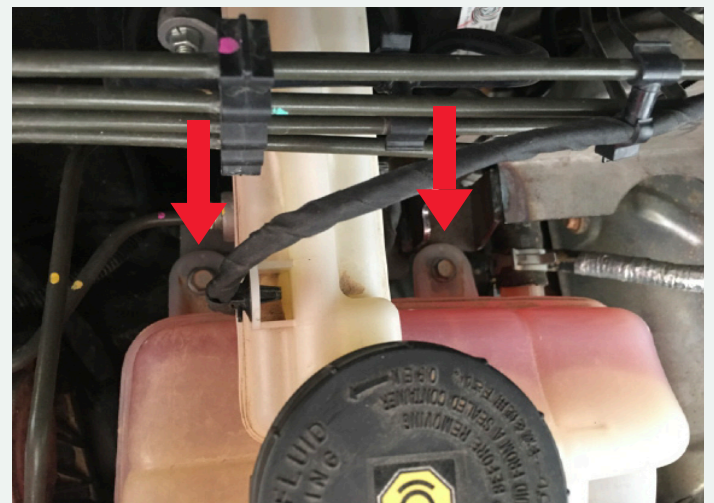

FIGURE 1B
- 1 Remove the engine cover. Loosen the coolant overflow bottle bracket bolts shown in FIG. 1B. The FB9805CC bracket (3mm) will sit between the coolant reservoir and the OEM coolant overflow bracket.